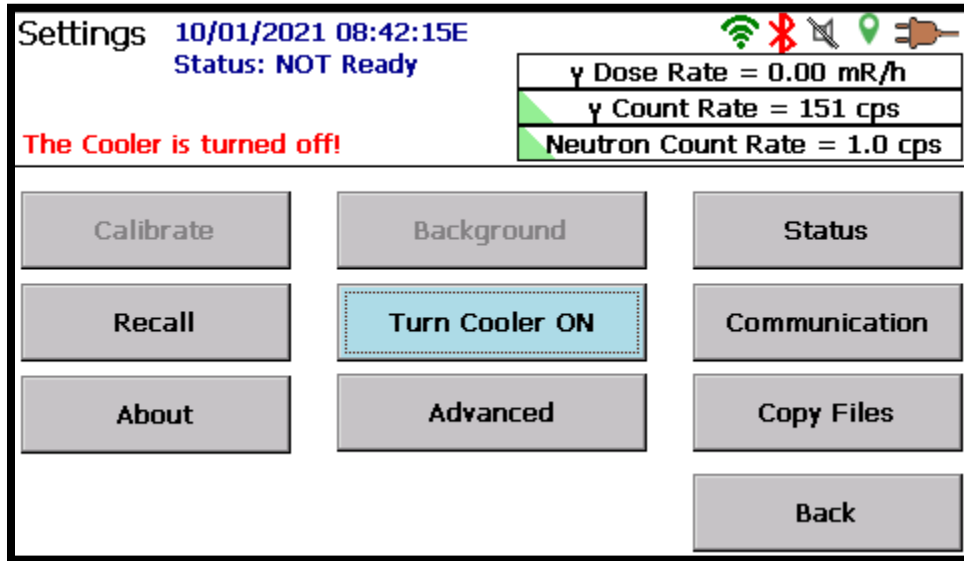

Figure 12. Turn Cooler On
1. In the lower right corner, tap the **Settings** button to open the **Settings** page (Figure 12). Then tap **Turn Cooler ON**. Note that this is an on/off toggle, and the button label changes with the cooler state.